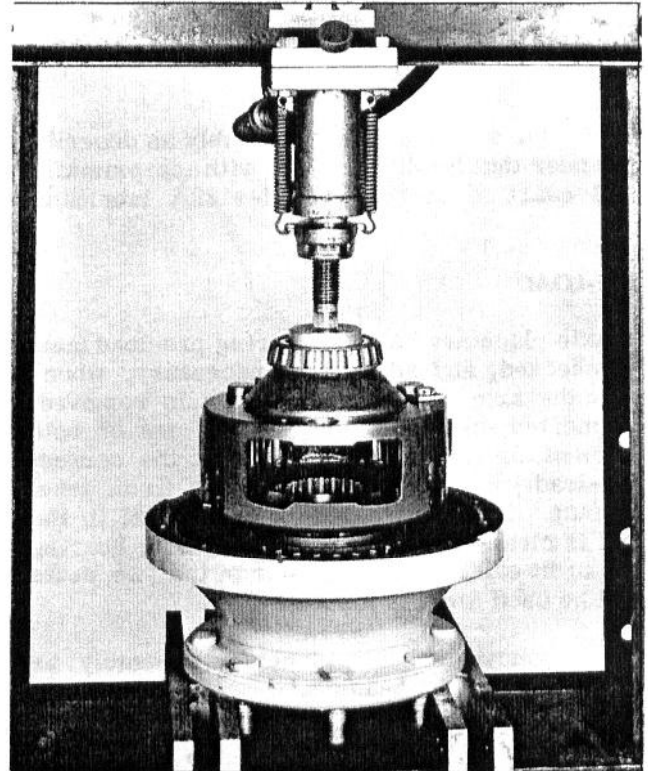

Fig. 50 - Pressing Planetary Carrier onto Wheel Axle
6. Press the wheel axle into the planetary carrier far enough to install the split ring. Install the ring. See Fig. 50.